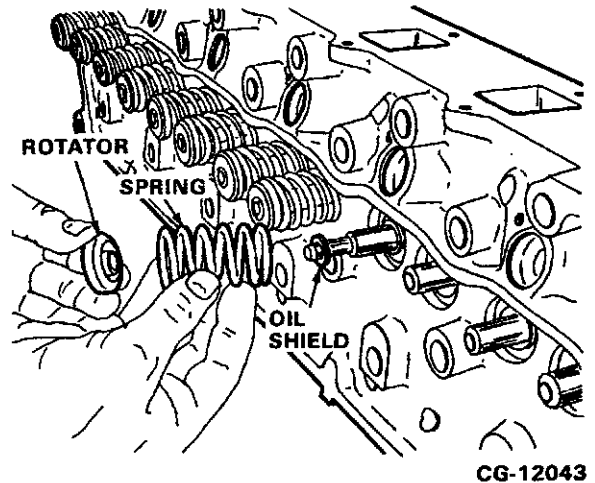

Figure 4.31. Remove Valve Rotator, Spring and Oil Shield
5. Remove the valve rotator, valve spring and oil shield as shown in **Figure 4.31**.